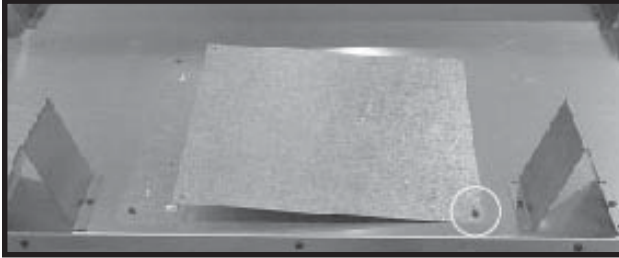

Figure 5 - Insulated Cover Plate, Top of Appliance
- a. Remove the screw holding the heat shield cover plate to the top of the appliance and set aside. See Figure 5.